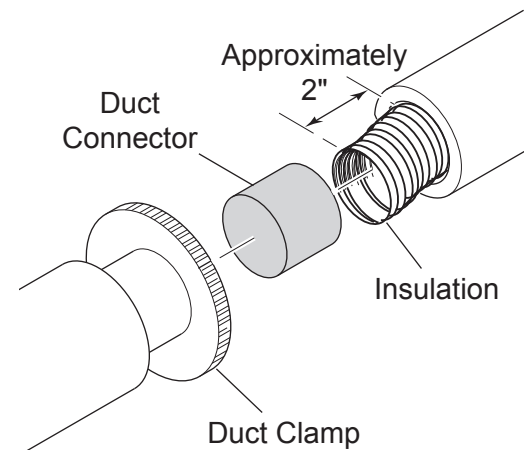

Figure 24 - Installing Duct Connector 403
7. If the duct is the insulated type, push the insulation back from one end of the duct approximately 2". See *Figure 24*.